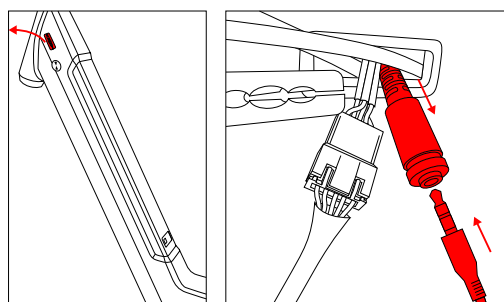

Figure 3.4 Connecting diagnostics to the fully integrated battery
- 2 Remove the cover from the side of the bicycle and remove the display extension cable (Fig. 3.4).